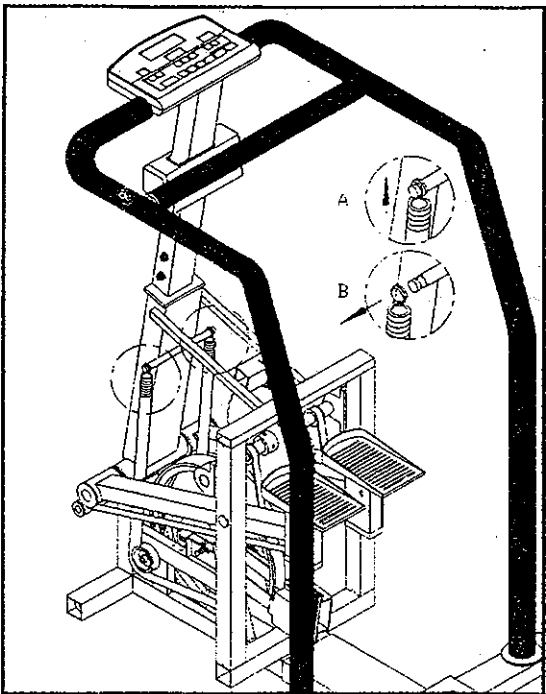

Fig. 8
7. Raise up the springs to release both sides, following steps A and B (see Fig: 8).